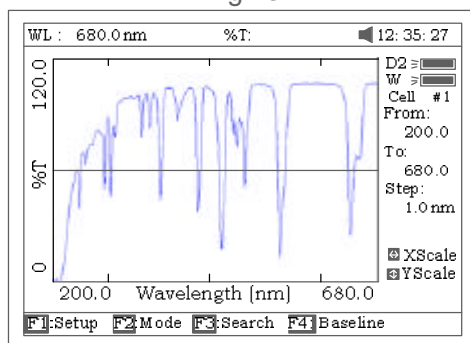

Fig 14
- The key **【ENTER】** be pressed, the file selected will be loaded and displays on the screen. Fig 14.
- ✧ Press the key **【SAVE】** in Fig14 to save curve.